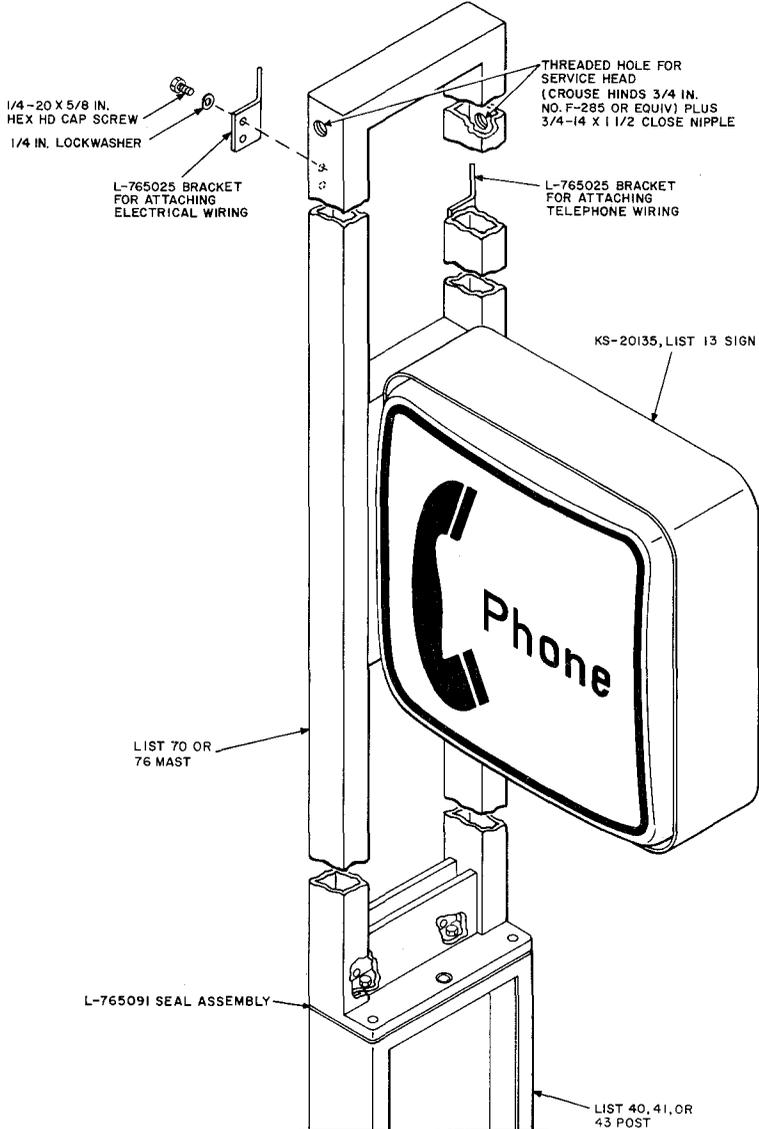

Fig. 41—Installing List 70 Mast on Post
- (e) If overhead wiring is to be used, install Crouse Hines 3/4-inch No. F-285 (or equivalent) service head plus 3/4-14 by 1-1/2 close nipple (Fig. 41).